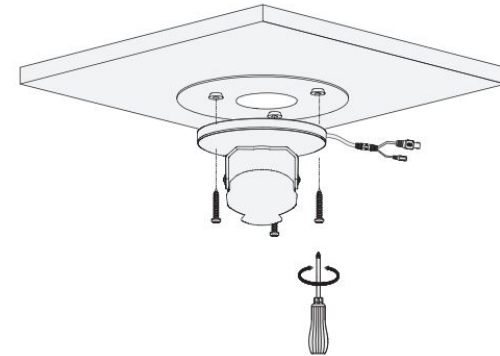

Figure 2-3
Step 3 Use the wrench included with the camera to remove the Dome cover screws on the camera base. Thread the cabling through cable exit if necessary. Thread the installation screws through the camera base and tighten as necessary. See Figure 2-3.